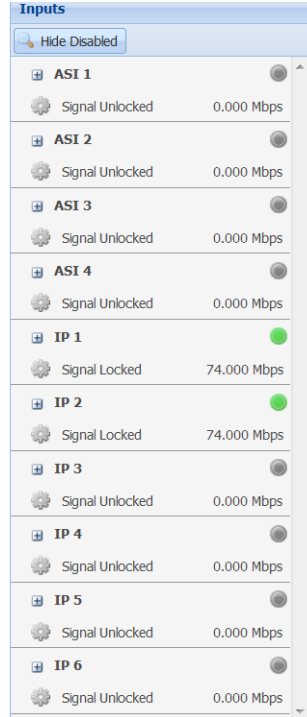

Figure 19 Inputs on SMD 910 Modulator
The IP inputs available on the SMD 910 modulator include (6) IP inputs via IP port 1. These inputs are shown when the Show Disabled icon is selected as shown in Figure 19.